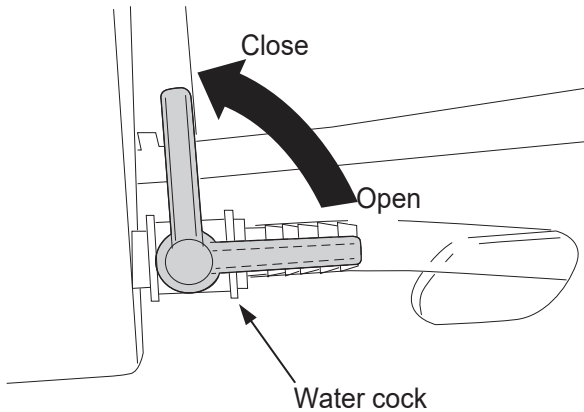

Fig.27
2. Close water cock to stop cooling water spray.(Fig. 27)